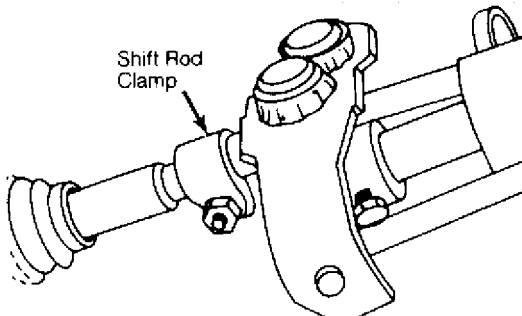

Fig. 5: Locating Shift Rod Clamp Nut
2) Place gearshift lever in 1st gear position. Remove boot and gearshift lever knob. Loosen clamp nut. Ensure shift finger slides freely on shifter rod. Move gearshift lever to left, as far as it will go. Release lever. Lever should spring back .2-.4" (5-10 mm). See Fig. 5.
4) Place gearshift lever in Neutral position. Place lever bearing housing in center of elongated hole. Loosen shift rod clamp nut. See Fig. 5. Ensure shift finger slides freely on shift rod. Remove gearshift lever knob and shift boot.